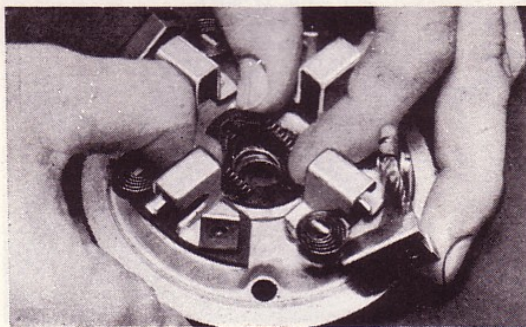

Bild 68. Montering av rotorbroms
1. Fit the rotor brake in the rear end shield, see Fig. 68, and the lead between the positive brushes.